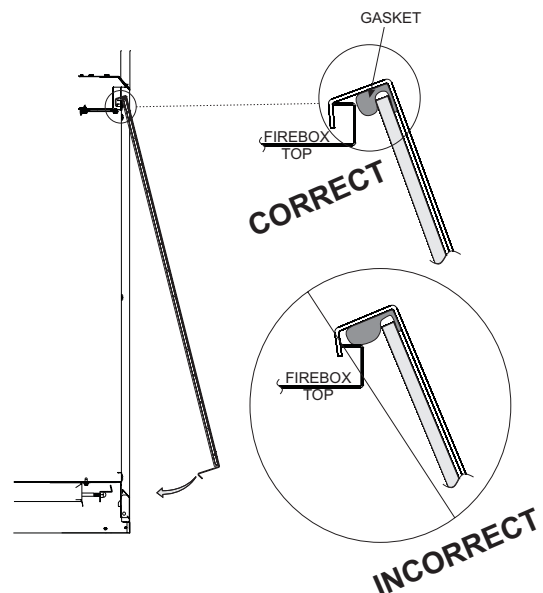

Figure 69
1. When installing the Glass Door assembly, make sure that the door top flange is hooked over the firebox top flange as illustrated in the "Correct" view in Figure 69.
**Important: Do not allow the gasket across the top of the door to roll up on top of the firebox flange as shown in "Incorrect" view in Figure 69.**